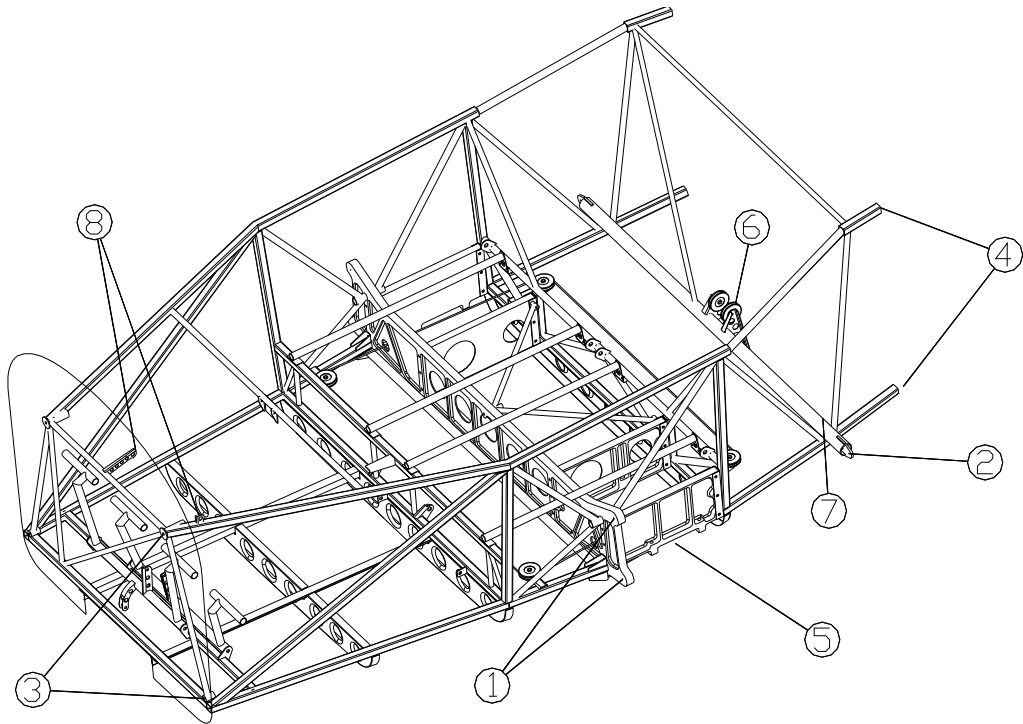

FIGURE C-11 *CABIN TRUSS*
The front part of the fuselage is made up of a mixed structure: a truss structure with special steel members for cabin survival cell (fig. C-11), and a light-alloy semi-monocoque structure for the cabin's bottom section.
Forward truss structure drawing (fig. C-11) shows location of attachment points for wing's main spar (1), wing's rear spar (2), tail cone (4), main landing gear (5), engine mount (3), flap torque tube (7), stabilator bellcrank (6), throttle support (8) and pulley support for cable driven aileron control. Seat supports and safety harness attachment points are also shown.